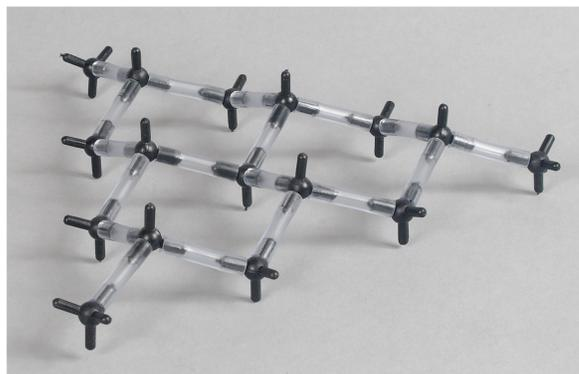

Fig. 5 Layer B
- Repeat Step 1 and Step 2 to make a copy of Fig. 2. Attach one carbon at each corner to make a structure resembling Fig. 5 "Layer B."